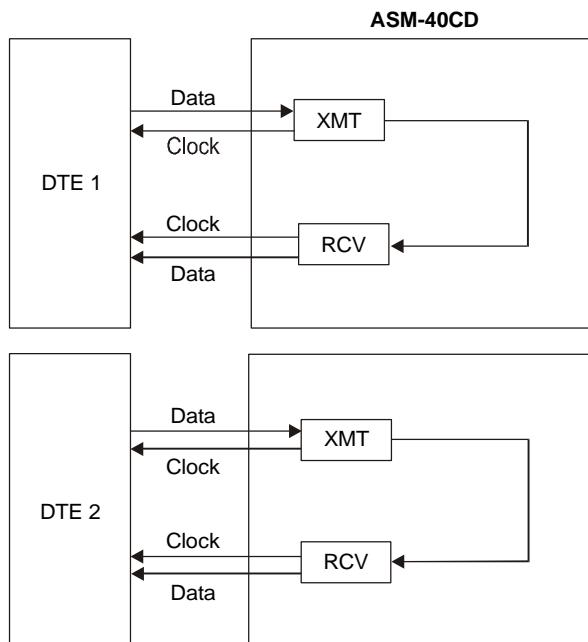

Figure 4-1. ASM-40CD Local Analog Loopback (LLB)
- **Local analog loopback** – The analog transmit signal from the local unit transmitter is looped back to the local unit receiver. The loopback tests the local ASM-40CD modem, the local DTE and the connections between them. The loopback is set from the local DTE via the LLB control line (see *Figure 4-1*).
The local analog loopback (LLB) checks the performance of the local ASM-40CD modem, the local data terminal, and the connections between them (see Figure 4-1).